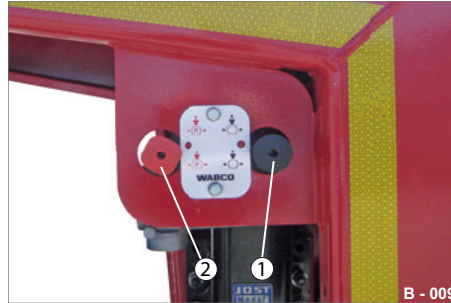

Fig. 14 Operating console: Brakes
- Engage the spring-loaded parking brake (Fig. 14/2). This brakes the trailer.